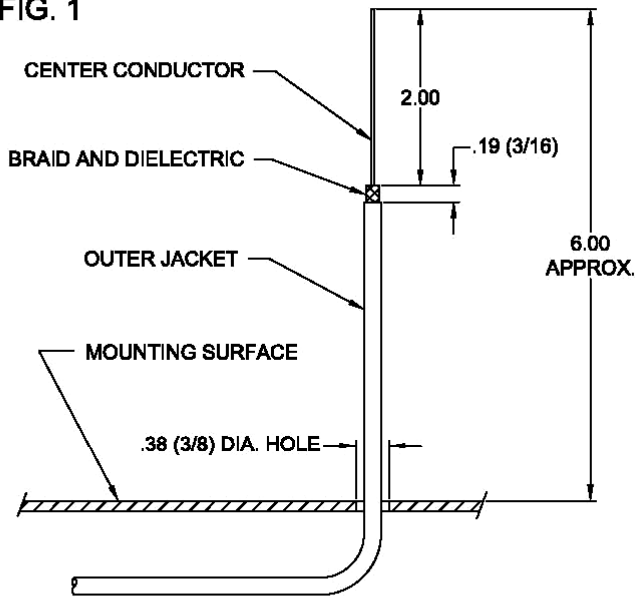

FIG. 2
- 6.) Remove braid nut and sleeve from clamp assembly. See figure 2.
- 7.) Slide clamp over stripped end of cable and press clamp fingers into mounting hole. See figure 2.